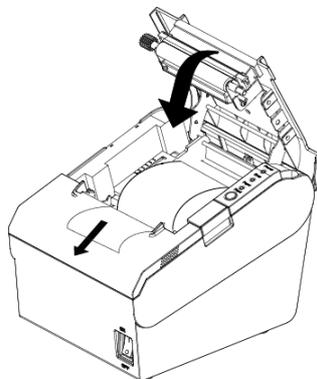

Figure 4.6.3
- 4) Close the top cover of VT300. ( Like figure 4.6.3 )